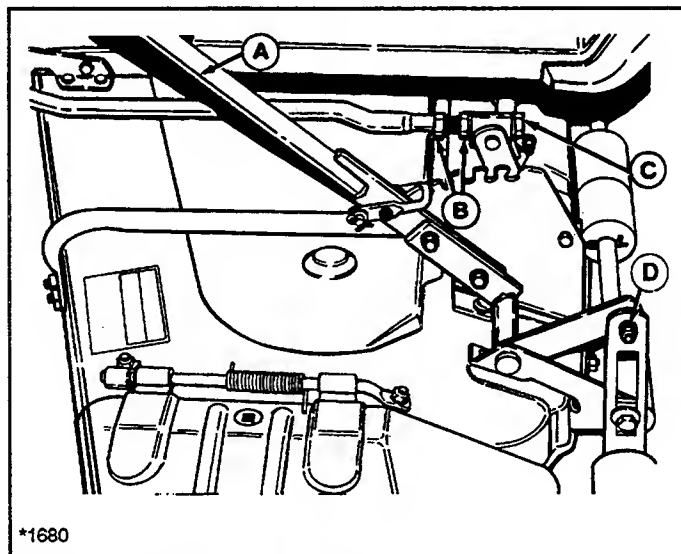

Figure 29. Mower Leveling
5. Loosen the hardware (D, figure 29) securing roller bar bracket to lift lever bracket. Raise or lower rollers as necessary to level mower. Tighten hardware and check measurement again.